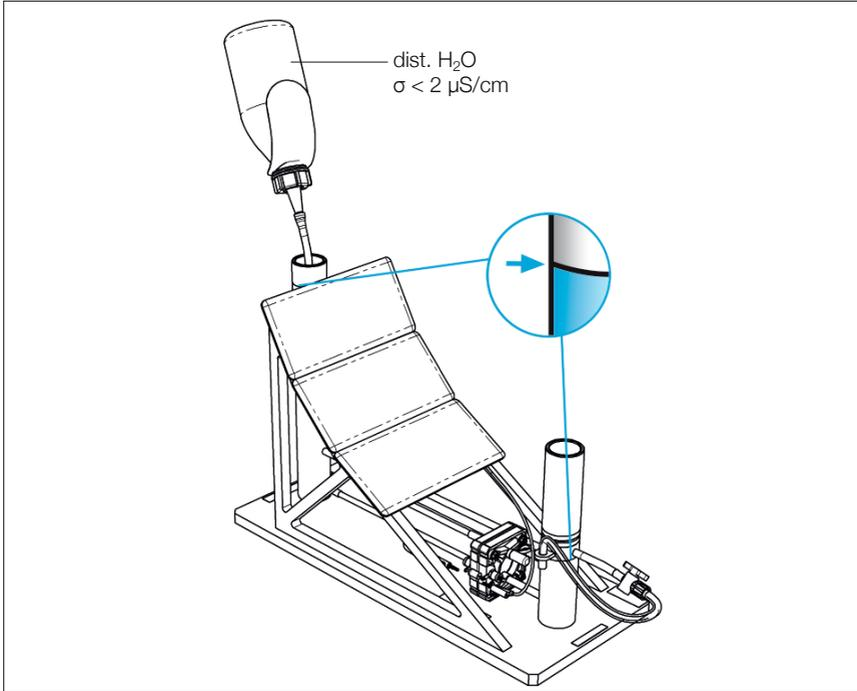

Fig. 4: Filling
- Fill the water reservoir up to the mark with distilled water ( $\sigma < 2 \mu\text{S}/\text{cm}$ ) as shown in figure 4.
- Fill the hydrogen storage tank up to the mark with distilled water ( $\sigma < 2 \mu\text{S}/\text{cm}$ ) as shown in figure 4.